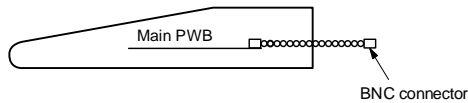

Fig. 2
- i) Connect a terminating resistor or read network to the BNC connector, QCNW-6856RCZZ (Fig. 2).
When using the above-mentioned RAM PWB version (1) with the ER-A750, it is necessary to correct the RAM access timing. Use of the above-mentioned RAM PWB version (2) does not require the correction of the RAM access timing. For this purpose, a hardware jumper (JP1), designed to judge to determine whether or not to correct the RAM access timing, is located on the main PWB of the ER-A750 (Fig. 2). Before installing an optional RAM PWB, check its version by referring to the description given in the above-mentioned (1) and (2) and set the jumper as shown below. (The ER-A750 has been factory-set for 150ns access time and TP cycle inserted.)